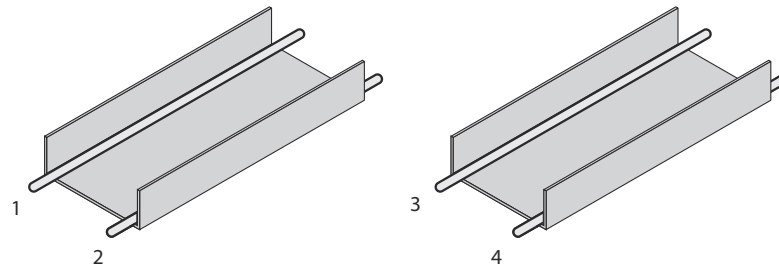
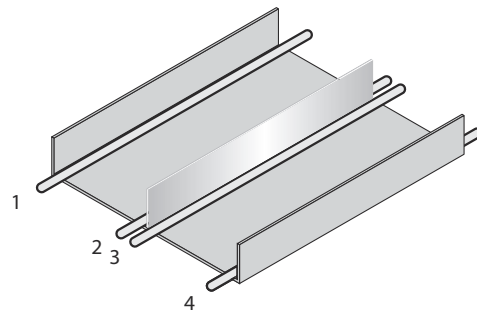

Figure 16: Ideal laying - Place cables in different cable channels
Figure 17: Alternative laying - Separate cables with metallic separators
- ▶ Cables in groups 1, 2 and 3, 4 must be routed in different cable channels or metallic separators must be used, see figure 16 and see figure 17. This applies particularly where cables of devices with a high level of radiated emission, such as frequency converters, are laid parallel to sensor cables.